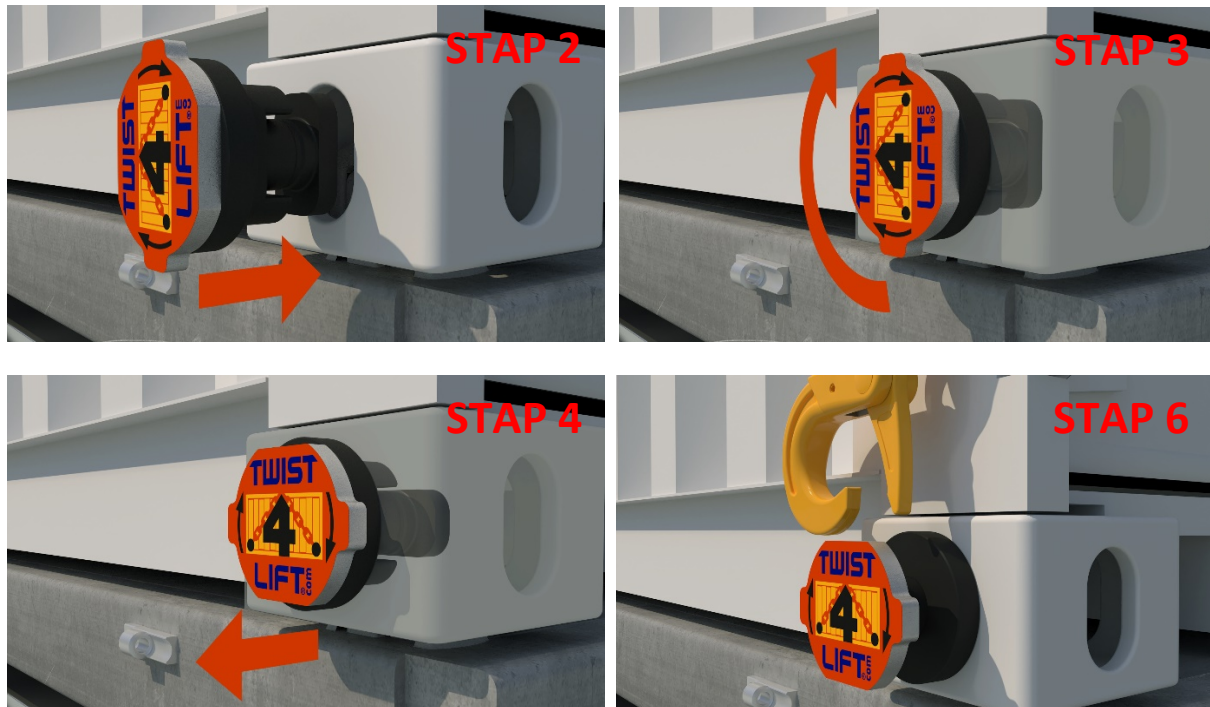

Figure 3. Twist4lift installation steps.
- Only use correct fitting and certified hooks, see also Figure 3.